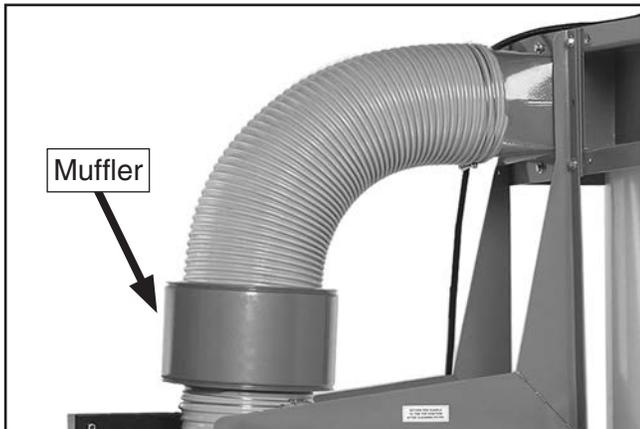

Figure 18. Muffler properly positioned between two gray flexible hoses.
22. Attach 8" x 5" gray flexible hose between canister adapter and muffler with (2) 8" hose clamps, then attach 8" x 20" gray flexible hose between muffler and outlet port with (2) 8" hose clamps (see **Figure 18**).